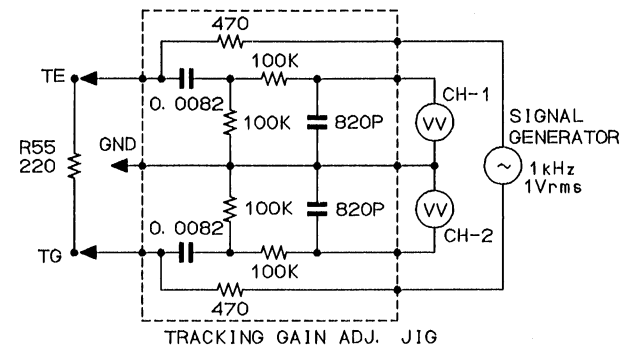

Figure 22-1
*3: Apply sine wave (oscillation frequency 1.0 kHz, 1.0 Vrms) as shown in Fig. 22-1.